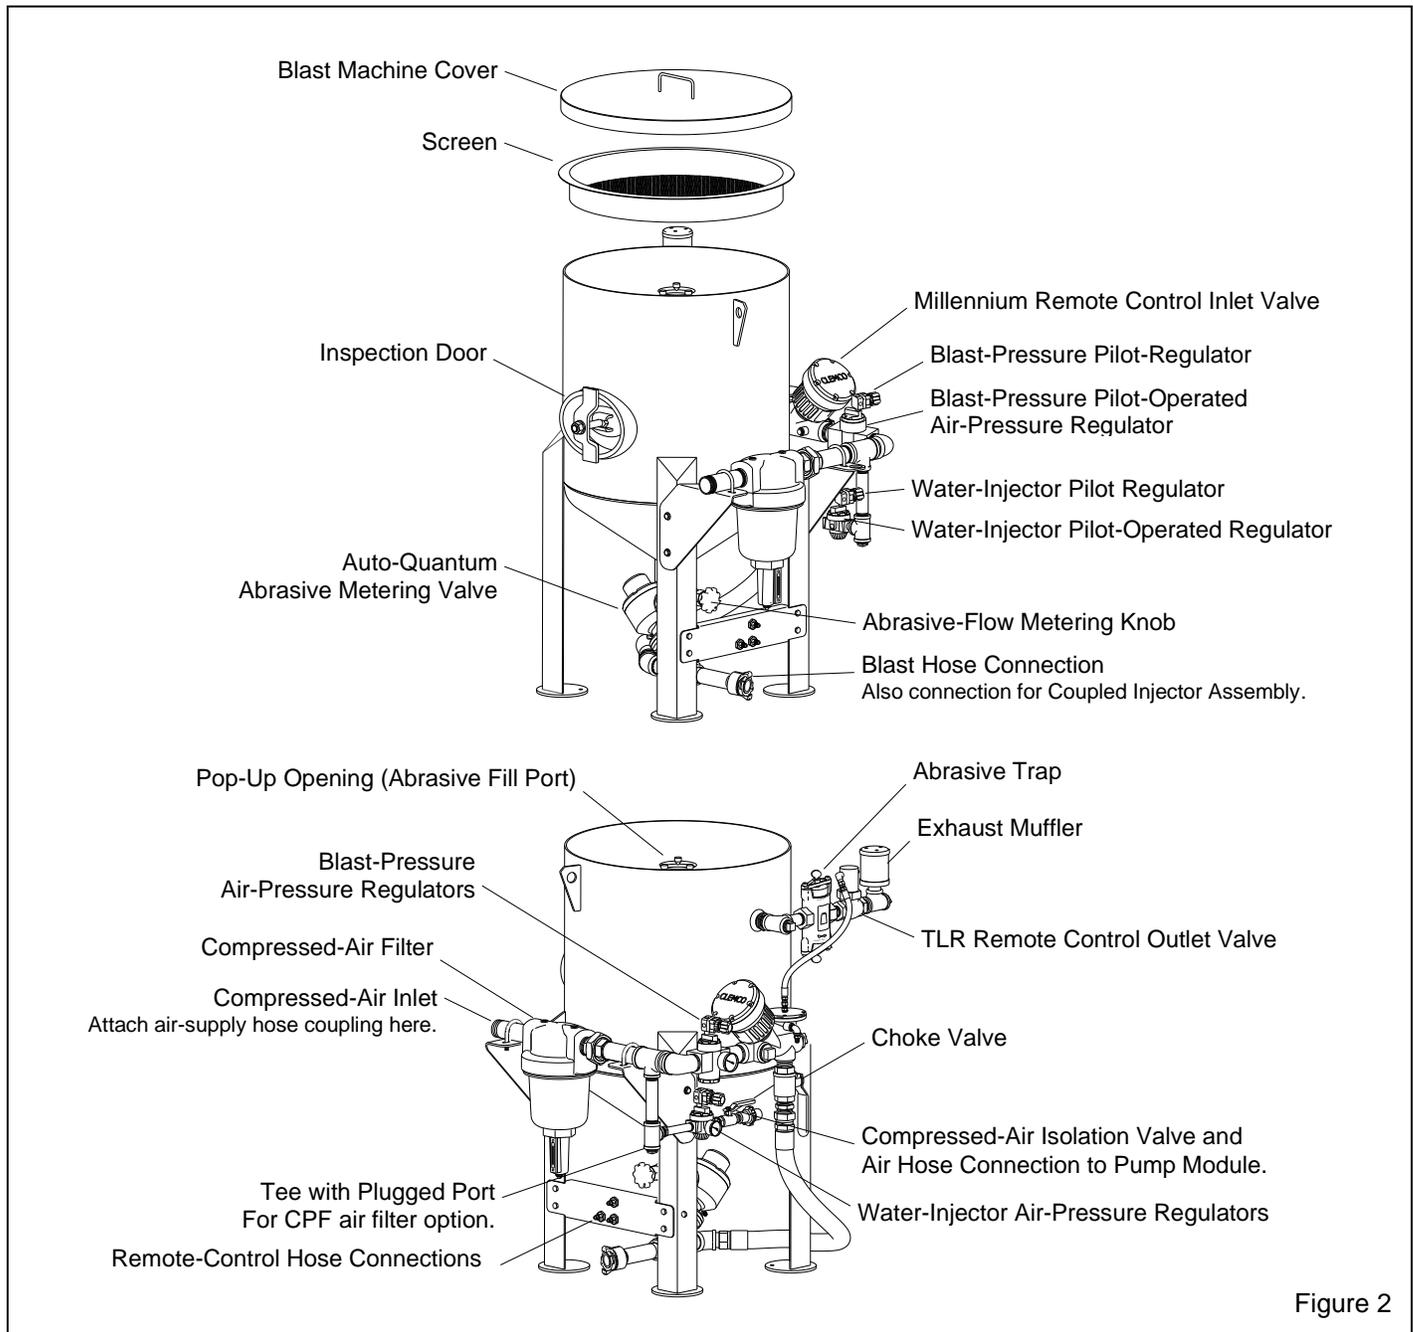

Figure 2
1.6.1 Blast machine – Figure 2